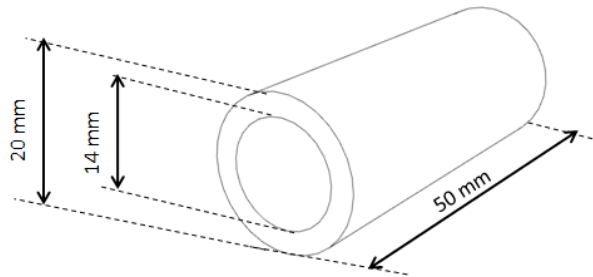

Fig. 1
- 1 Fig. 1 shows a steel tube with length 50 mm. The outside diameter is 20 mm and the inside diameter is 14 mm.